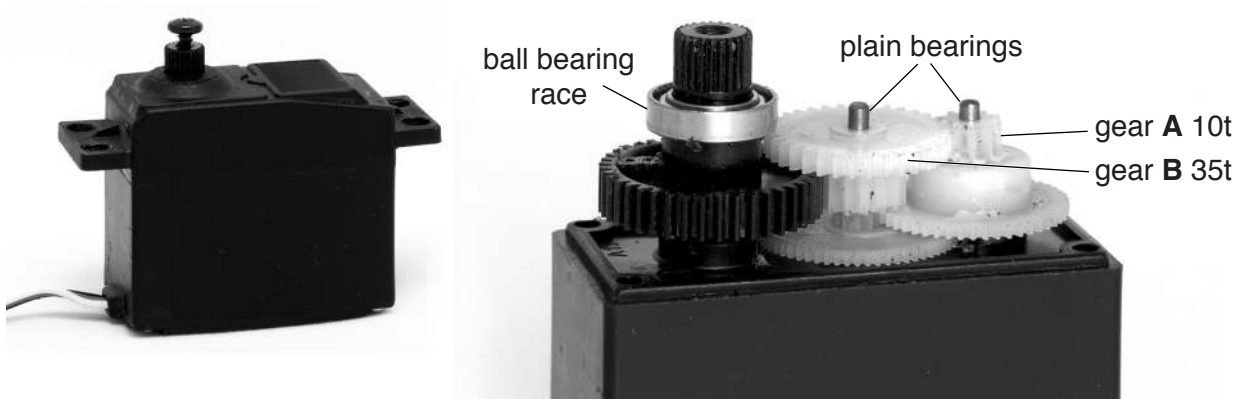

Fig. 15
(d) Fig. 15 shows details of a servo motor used to control model aircraft and boats.
- (iii) Gear **A** in Fig. 15 drives gear **B**.